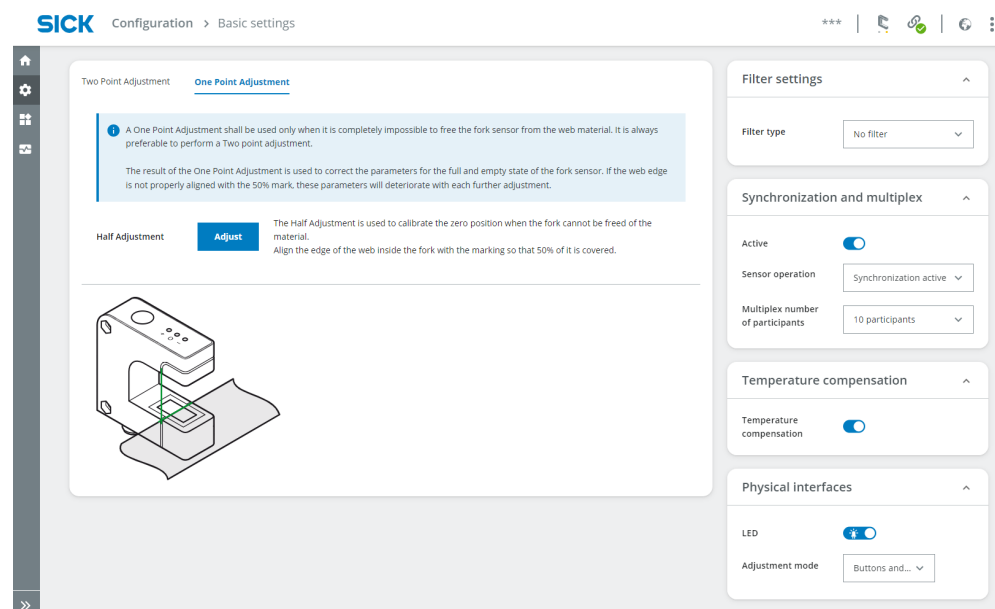

Figure 8: One Point Adjustment (Half adjustment)
- One Point Adjustment is only recommended if the sensor cannot be completely freed of web material (see figure 8, page 23).